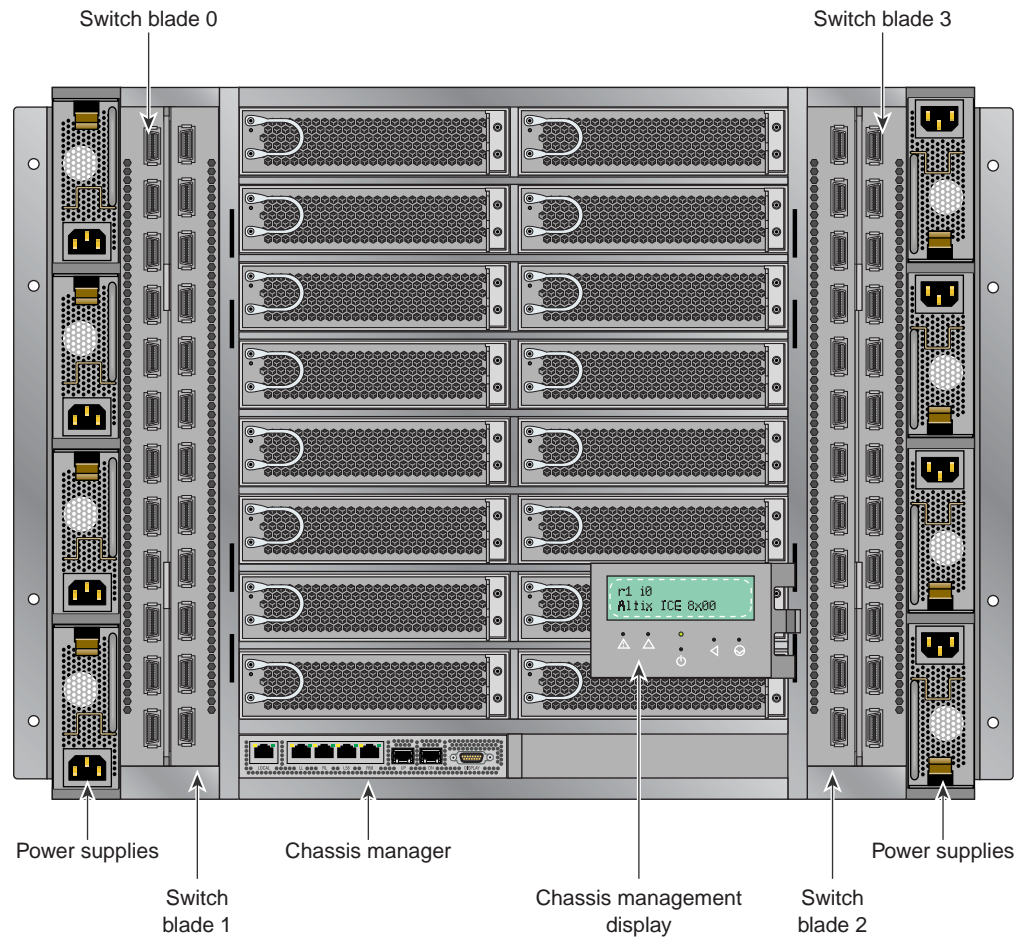

Figure 3-7 Altix ICE 8200 Series IRU System Components Example
- **Individual Rack Unit (IRU).** This enclosure contains the compute/memory blades, chassis manager, InfiniBand fabric I/O blades and front-access power supplies for the Altix ICE 8200 series computers. The enclosure is 10U high. Figure 3-7 on page 34 shows the Altix ICE 8200 series IRU system components.